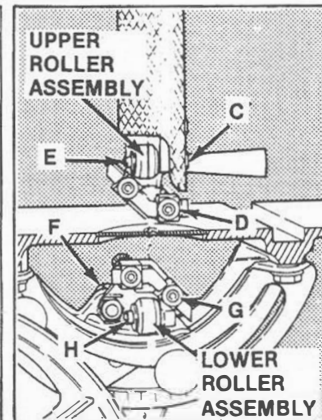
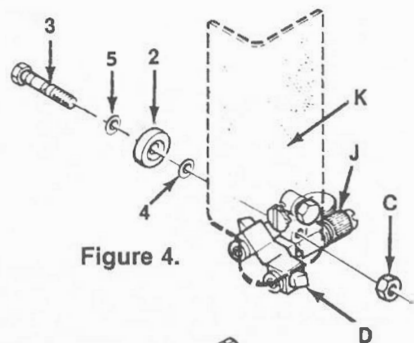
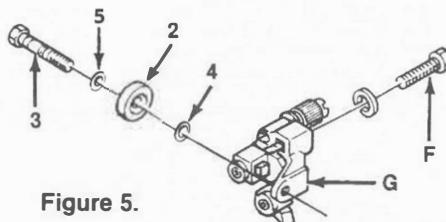

Figure 2.
Figure 4.
Figure 5.
1. Remove nut (C). (See Figure 2.)
2. Turn guide adjusting knob (J) (see Figure 4) clockwise to move upper blade guide assembly (D) (see Figure 2) all the way forward.
3. Unscrew slotted shaft (E) to remove upper roller assembly. Discard upper roller assembly.
4. Place flat washer (5), roller bearing (2), and lock washer (4) on shoulder screw (3). (See Figure 4.)
5. Thread roller bearing assembly through upper blade guide assembly (D) and blade guard (K). Add nut (C) and tighten.
2. Remove hex bolt (F) and lock washer at the back of the lower blade guide assembly (G). (See Figure 2.) Remove lower blade guide and lower roller assemblies.
3. Unscrew slotted shaft (H) to remove lower roller assembly. Discard lower roller assembly.
4. Place flat washer (5), roller bearing (2), and lock washer (4) on shoulder screw (3). (See Figure 5.)
5. Mount roller bearing assembly into lower blade guide assembly (G).
6. Mount lower blade guide and roller bearing assemblies to the bandsaw using hex bolt (F), lock washer and nut. Tighten bolt.